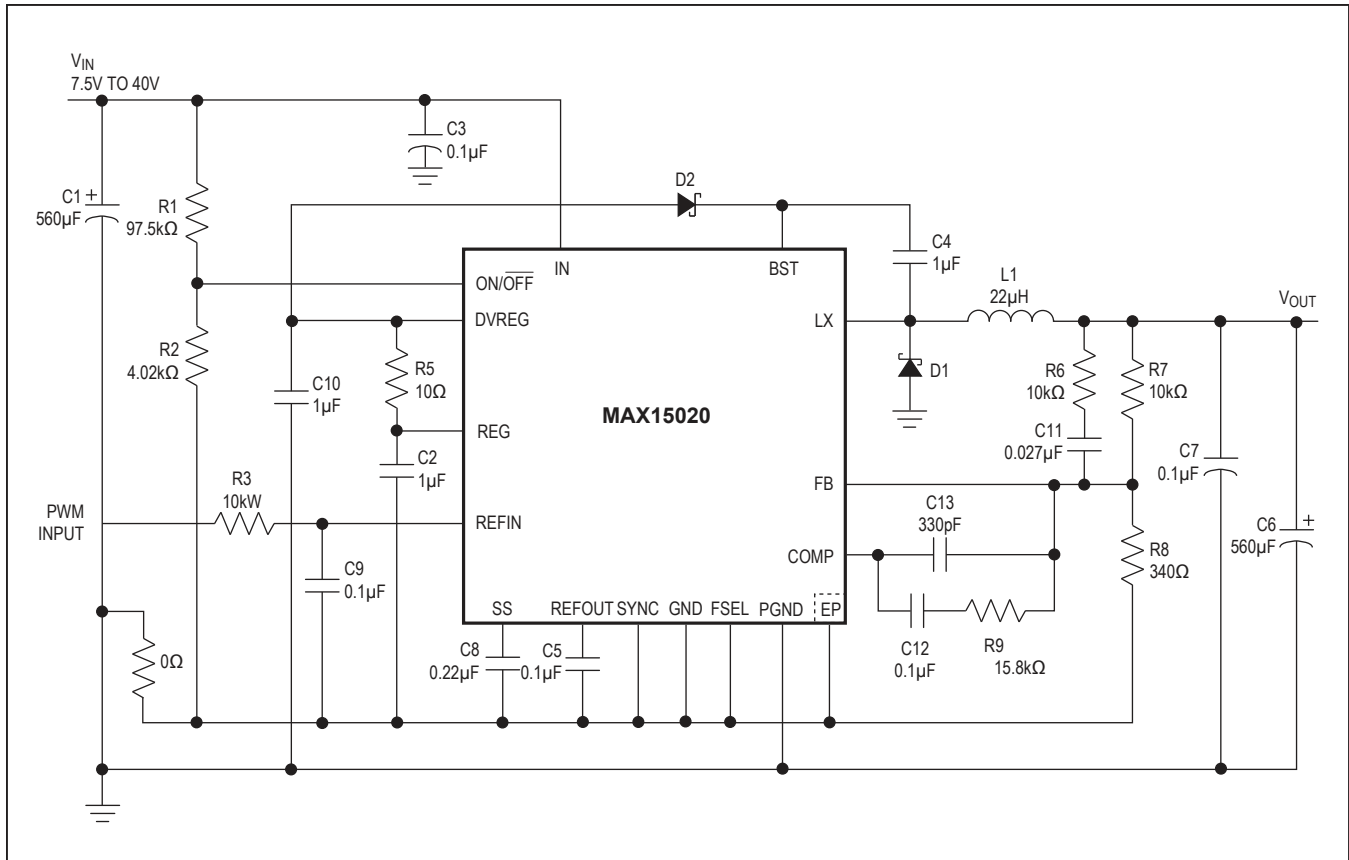

Figure 2. Typical Application Circuit
($V_{IN} = 36V$, Circuit of Figure 2, $T_A = +25^\circ C$, unless otherwise noted.)
The MAX15020 features a reference input for the internal error amplifier. The IC regulates FB to the SS voltage which is driven by the DC voltage applied to REFIN. Connect REFIN to REFOUT to use the internal 0.98V reference. Connect REFIN to a variable DC voltage source to dynamically control the output voltage. Alternatively, REFIN can also be driven by a duty-cycle control PWM source through a lowpass RC filter (Figure 2).
When the voltage at ON/OFF rises above 1.225V, the MAX15020 turns on. Connect a resistive divider from IN to ON/OFF to GND to set the turn-on voltage (see Figure 2). First select the ON/OFF to the GND resistor (R2), then calculate the resistor from IN to ON/OFF (R1) using the following equation:
Connect a resistor-divider from OUT to FB to GND to set the output voltage (see Figure 2). First calculate the resistor (R7) from OUT to FB using the guidelines in the *Compensation Design* section. Once R7 is known, calculate R8 using the following equation:
The basic regulator loop consists of a power modulator, an output feedback divider, and a voltage error amplifier. The power modulator has a DC gain set by V_{IN}/V_{RAMP} , with a double pole and a single zero set by the output inductance (L), the output capacitance (C_{OUT}) (C6 in the Figure 2) and its ESR. The power modulator incorporates a voltage feed-forward feature, which automatically adjusts for variations in the input voltage resulting in a DC gain of 9. The following equations define the power modulator: